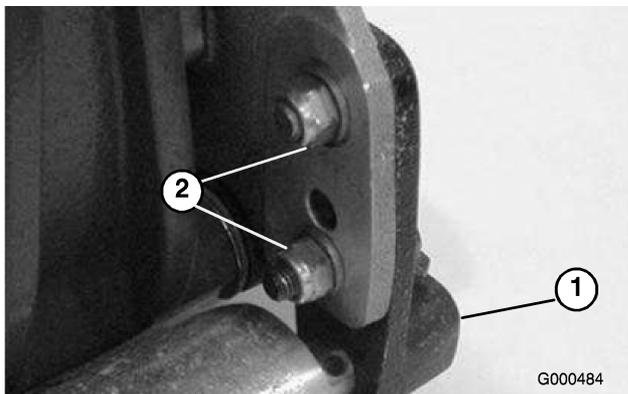

Figure 47
4. Loosen locknuts securing right rear roller bracket to cutting unit sideplate (Figure 47).